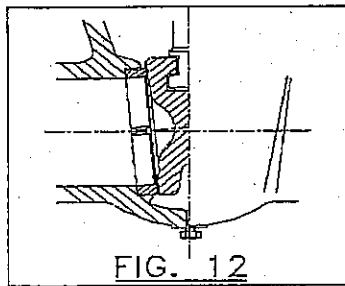

FIG. 12
- *Figure 12* ► it represents a plug of drain connection its location will be done according to the customer's instructions.